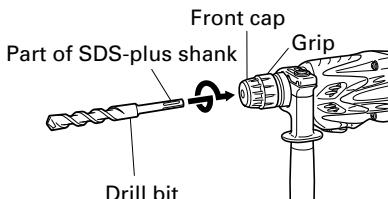

Fig. 2
6. Mounting the drill bit (Fig. 2)
- (1) Clean the shank portion of the drill bit.
- (2) Insert the drill bit in a twisting manner into the tool holder until it latches itself. (Fig. 2)
- (3) Check the latching by pulling on the drill bit.